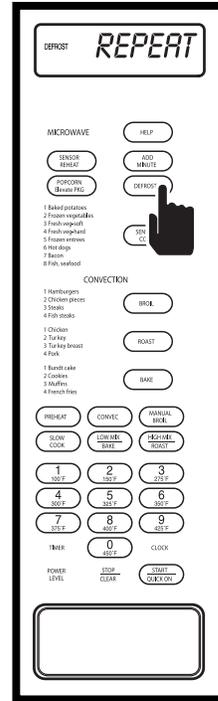

Figure 3-51.
1. Press DEFROST key, “REPEAT - TO - SELECT - FOOD ” will flash on display. (See Figure 3-51).